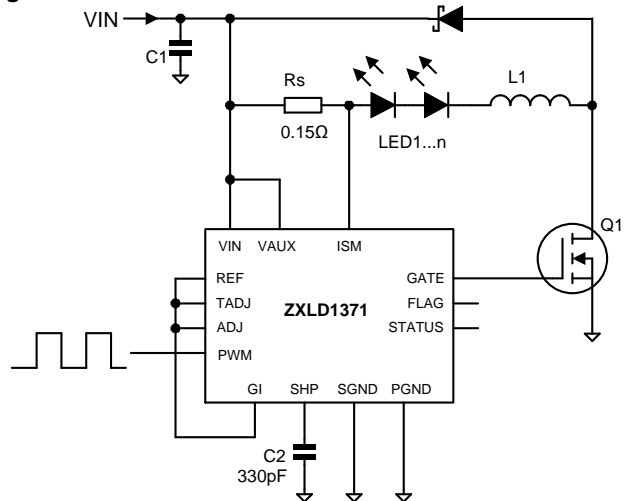

Figure 1. Buck configuration
a) Buck Mode – the most simple buck circuit is shown in Figure 1